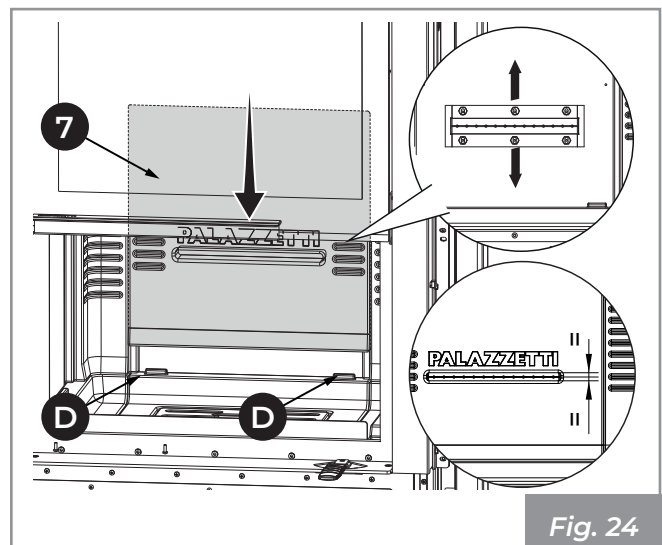

Fig. 24
- 8) Place the refractory back plate (7) on the Econoblocco wall and gently slide it into position, centring it with the protuberances (D) present in the refractory brick base (Fig. 24).